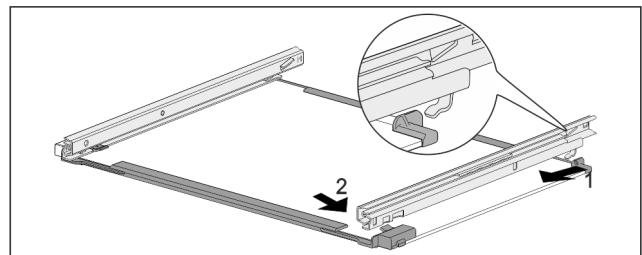

Fig. 242 Glass shelf with rails
- ▶ Hook in rail at the back. Fig. 242 (1)
- ▶ Hook in rail at the front. Fig. 242 (2)